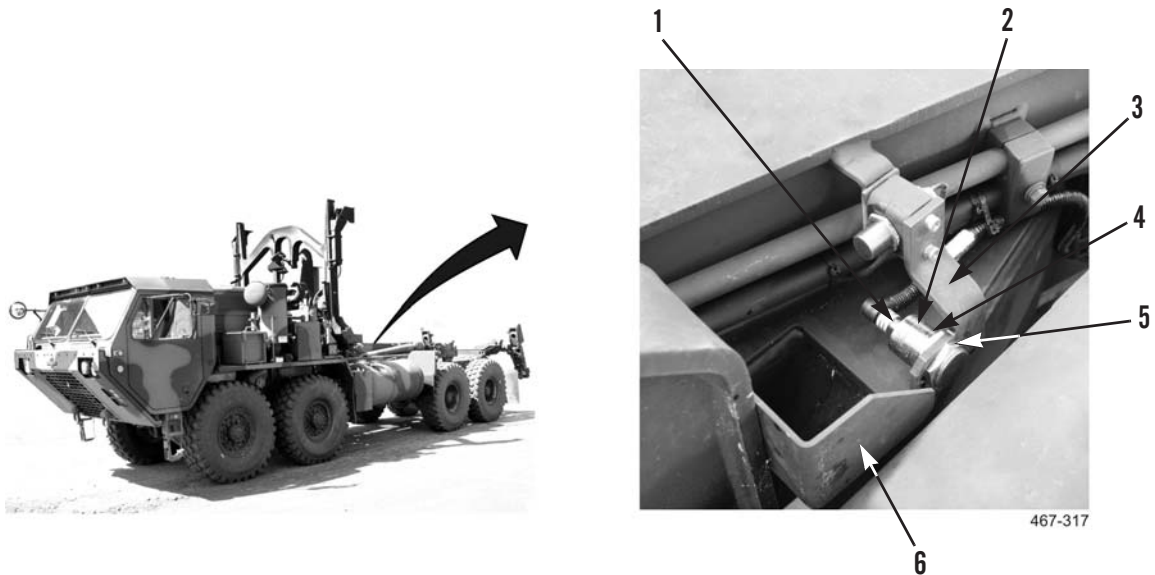

Figure 53. Hook Arm Sensor Calibration.
3. Loosen nut (Figure 53, Item 5) on hook arm sensor (Figure 53, Item 2) and adjust nut (Figure 53, Item 4) until face of sensor is .375 to 0.5 in. (2 to 3 mm) from sensor plate (Figure 53, Item 6).
4. Slide hook arm sensor (Figure 53, Item 2) on bracket (Figure 53, Item 3) toward sensor plate (Figure 53, Item 6) and identify position where sensor light (Figure 53, Item 1) turns on. Tighten nut (Figure 53, Item 5) at that position.